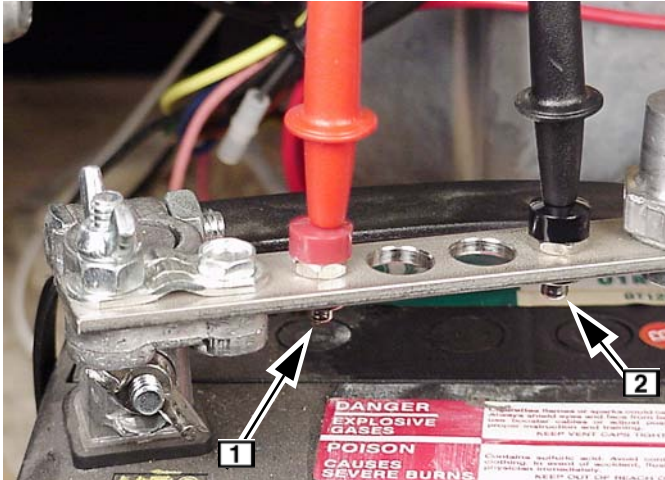

Fig. 32
3. Insert **BLACK** test lead into **COM** receptacle in meter and connect to **BLACK** post terminal **2** on shunt, Fig. 32.